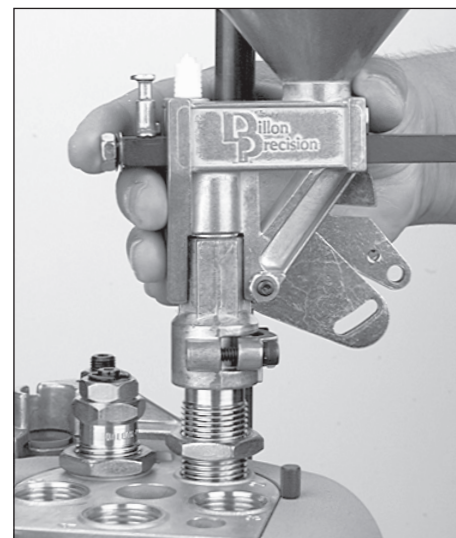

FIG 39
5. Place the powder measure onto the powder die **FIG 39**. Turn down the two clamp screws until they are snug. Then loosen them slightly. The measure should move freely atop the die.